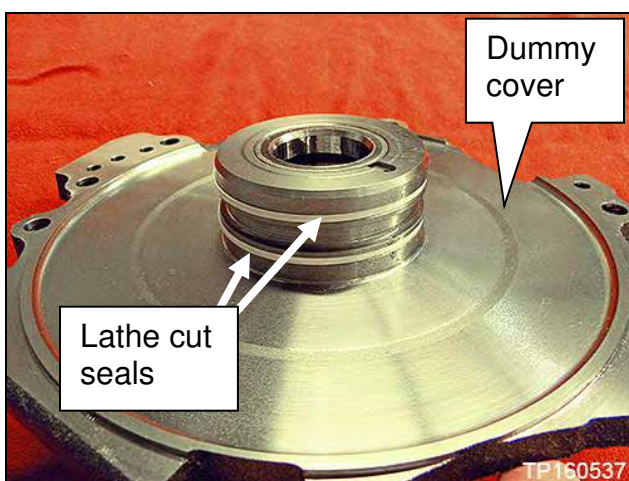

Figure 20C
- Do NOT remove the lathe cut seals (Figure 20C) from the dummy cover. These seals will be reused.